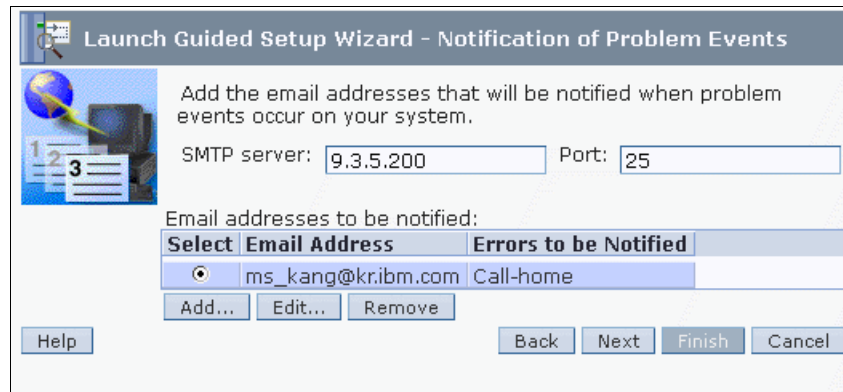

Figure 3-20 Notification of Problem Events panel
24. Enter your SMTP server information and also add the email address for notifications, as shown Figure 3-20. Click **Next** to continue.